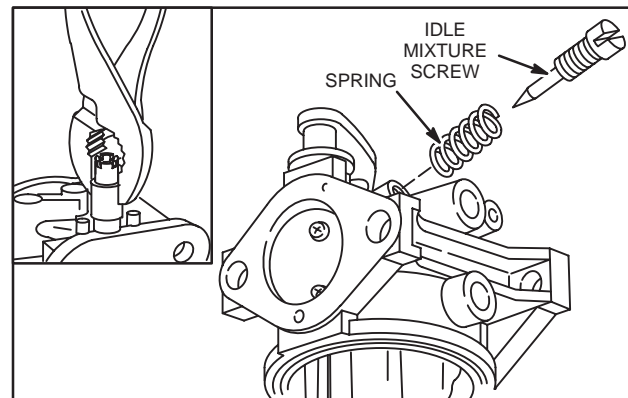

Fig. 10 – Removing Idle Mixture Screw
- a. Remove Idle mixture screw and spring, Fig. 10.